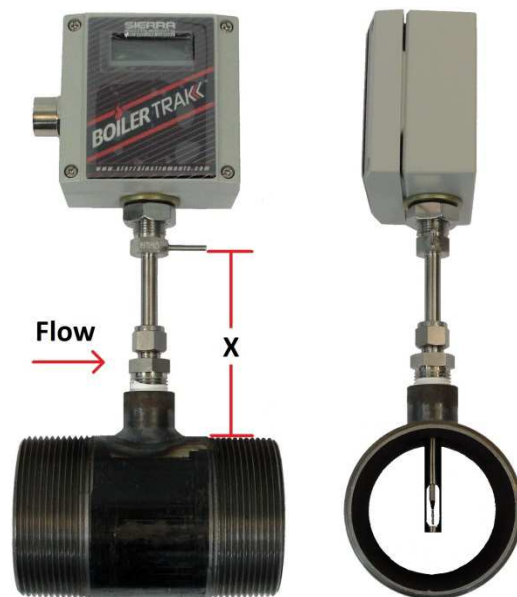

Figure 4: Meter Inserted into Pipe
7. Insert the meter sensing tube into the tubing adapter. Using Table 1 and Figure 4, center the meter's sensing element in the pipe by setting distance "X" (distance from the outer diameter of the pipe to the bottom of the pointer). This can be done carefully with a tape measure. Ensure that the pointer on the flow meter is pointing in the direction of flow.